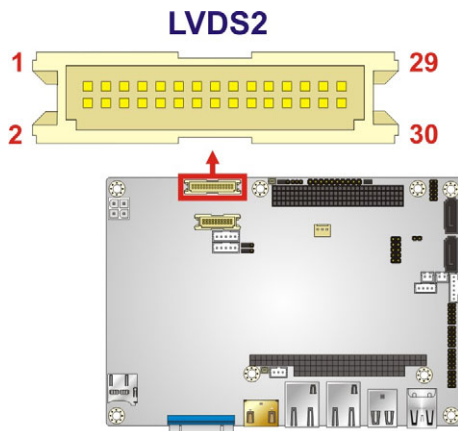

Figure 3-12: LVDS2 Connector Location
- CN Location:** See **Figure 3-12**